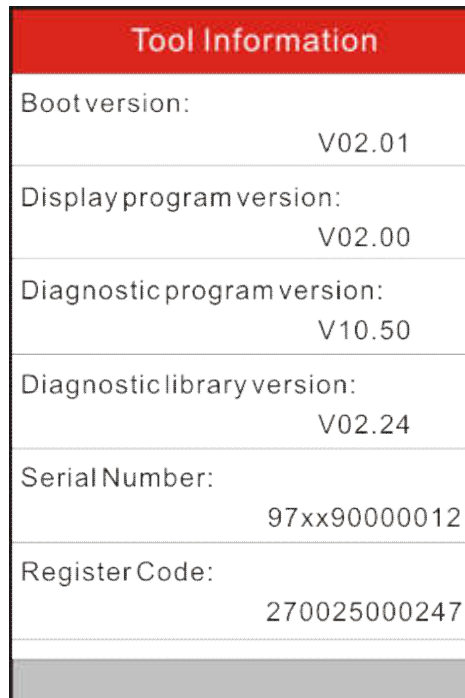

Figure 7-5
7. The Register Code shown in figure 7-5 is the Register Code needed in step 3. (Return to step 3 and input the Register Code and then proceed)